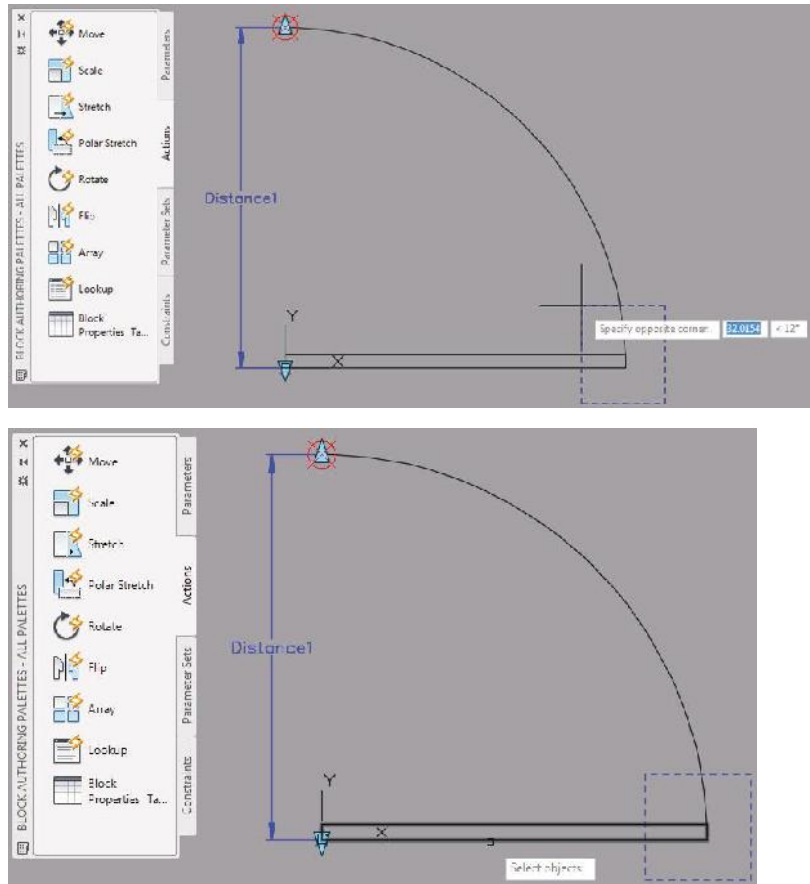

FIGURE 9.45: Defining the stretch frame (top) and selecting the door objects (bottom)
3. At the Specify opposite corner of stretch frame or [CPolygon]: prompt (see the top of Figure 9.45), form a crossing polygon around the right half of the door, clicking each of the opposing corners rather than clicking and dragging, as shown at the bottom of Figure 9.45.